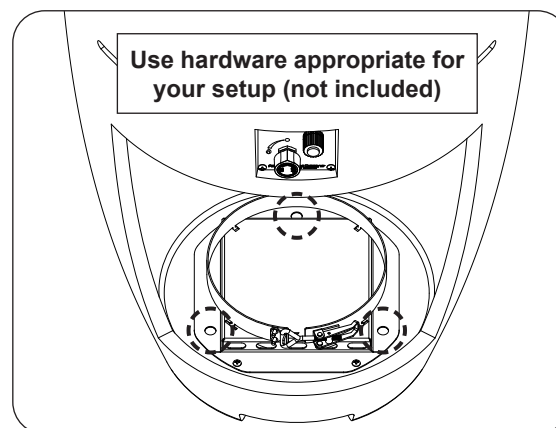

Fig. 19-4 Mount urn to floor
4. Using appropriate mounting hardware for the floor material/construction, secure the urn into the floor. The interior of the urn has three  $\frac{1}{2}$ " holes that will allow for the urn to be fastened to the floor. See Fig. 19-4.